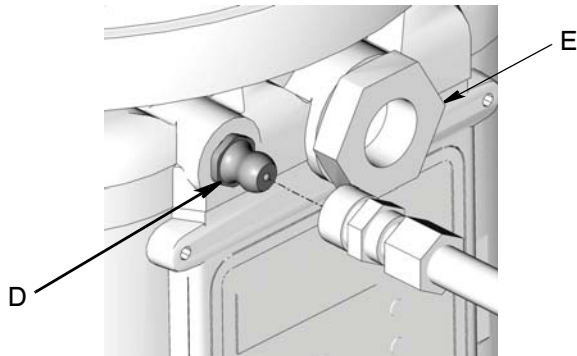

FIG. 13
1. Connect fill hose to inlet fitting (FIG. 13).